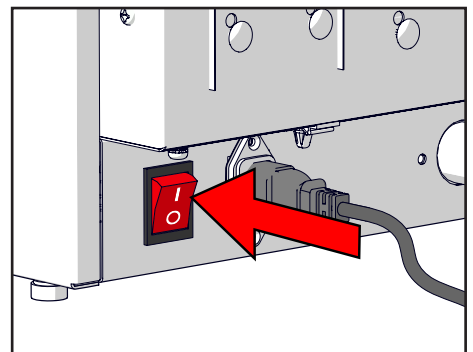

Figure 12.
8. Turn the machine on with the mains switch (see Figure 12).